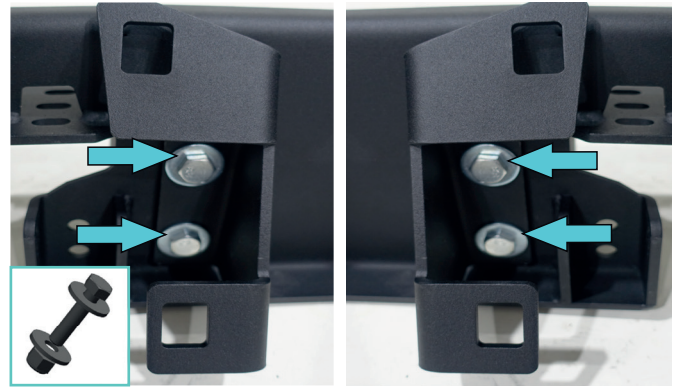

Fig.31
31. Install central brackets for bash plate (item 24, 25) using bolts M10x30, nuts M10, washers 10 (item F, Q, K) (fig.31).